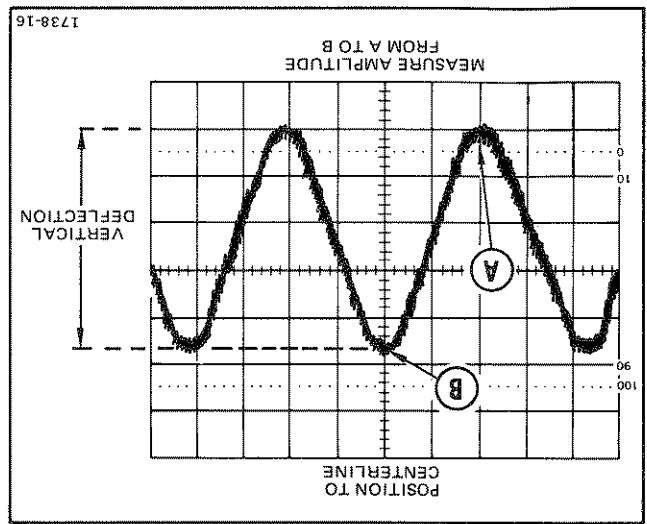

Fig. 4-2. Instantaneous voltage measurement.
9. Measure the divisions of vertical deflection between the ground reference line and the point on the waveform at which the level is to be determined (see Figure 4-2).
EXAMPLE: The measured vertical deflection from the reference line is 4.6 divisions (see Figure 4-2), the waveform being used, and the VOLTS/DIV switch is set to 2.